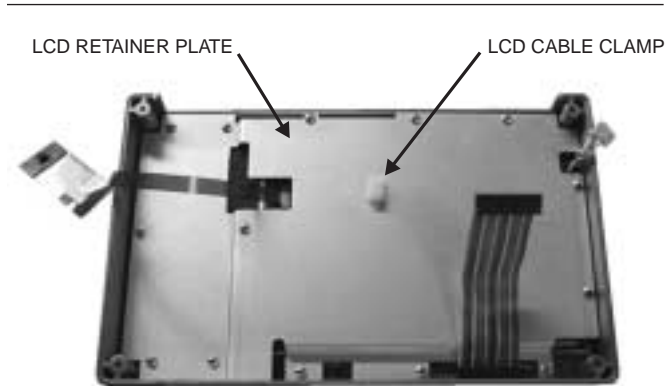

Figure 19. Front Panel Backing Plate
4. Release the LCD display cable from the retaining clip on the front panel backing plate (Figure 19).